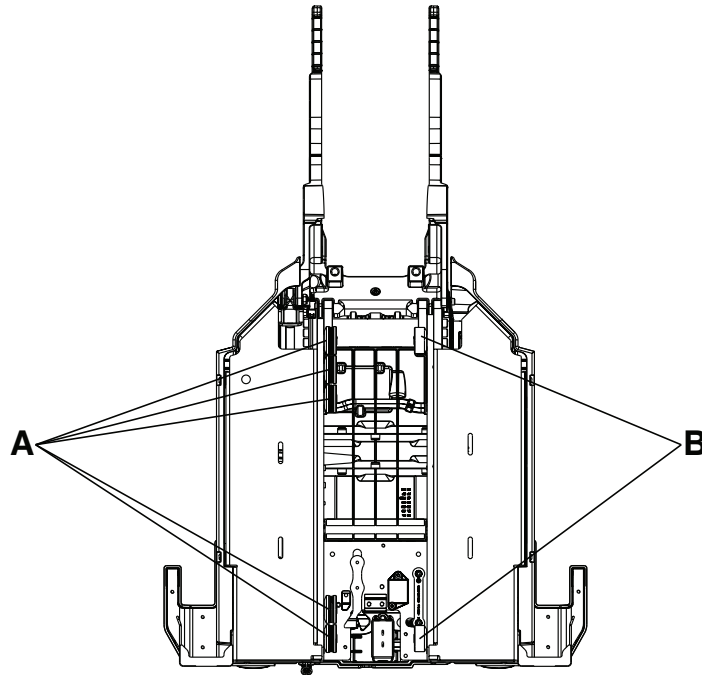

Figure 33 – Trolley bottom view of the V-guide rollers
2. Carefully set the trolley upright on its head end (Figure 33).
Note - The V-guide rollers are on the patient right side (five rollers) (A) and the flat rollers are on the patient left side (two rollers) (B) (Figure 33).